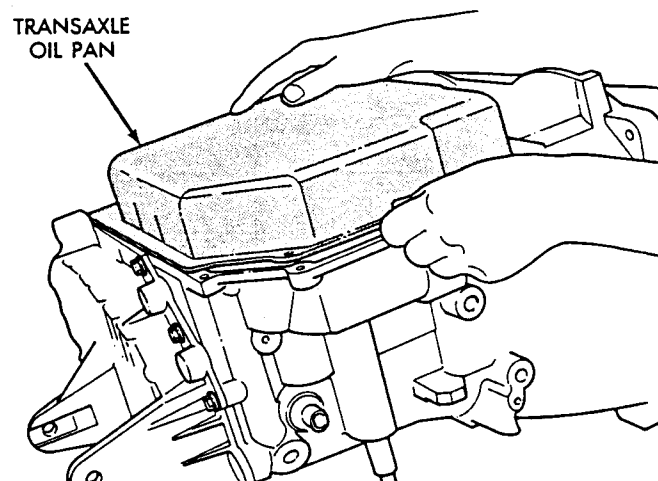

Fig. 2 Remove Transaxle Oil Pan
(5) Remove transaxle oil pan (Fig. 2). When reinstalling oil pan be sure that pan flange is clean and oil free. Apply a 1/8 inch bead of Mopar Silicone Sealer onto oil pan flange before installing.